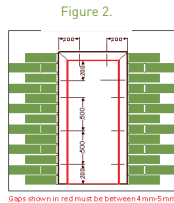

Figure 2.
### Fixings (see Fig 2)
- Step 3** Fit the door into the aperture ensuring the door is level using additional packers as required, you must ensure that the gap at the top of the door between slab and frame is equal from left to right [see gap tolerances Fig 2].
- Step 5** Close the door against the lock jamb ensuring full contact is made with the Q-Lon gasket and that the door slab is flush with the small face of the door frame. Special attention must also be made to ensure that the gap between the door slab and the outer frame (where the brush pile sits) is equal from left to right and from top to bottom. This gap should be between 4mm - 5mm, but consistent around the door [see Fig 2].